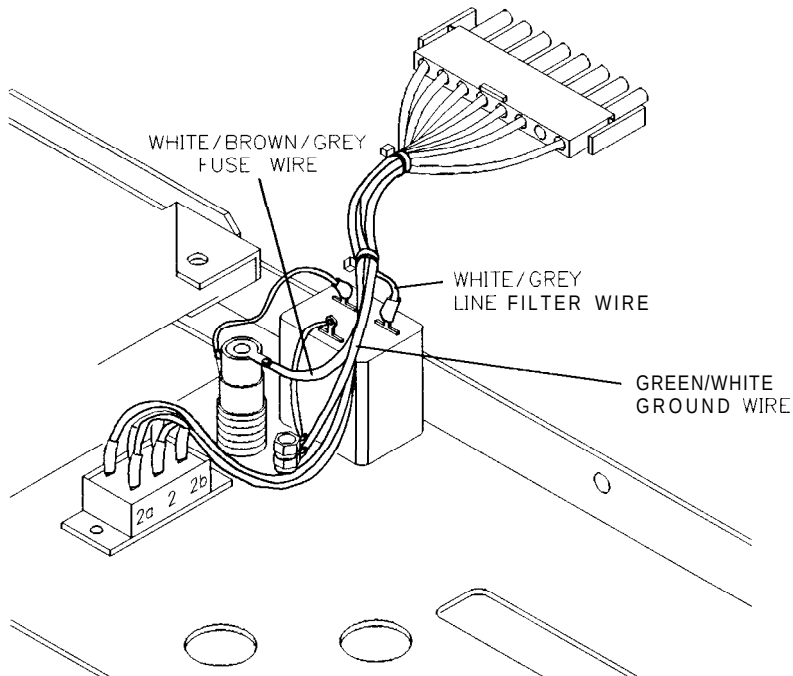

Figure 7-17. Fuse, Line Filter, and Ground Wires
4. Unsolder the white/brown/grey wire from the fuse. Refer to Figure 7-17.